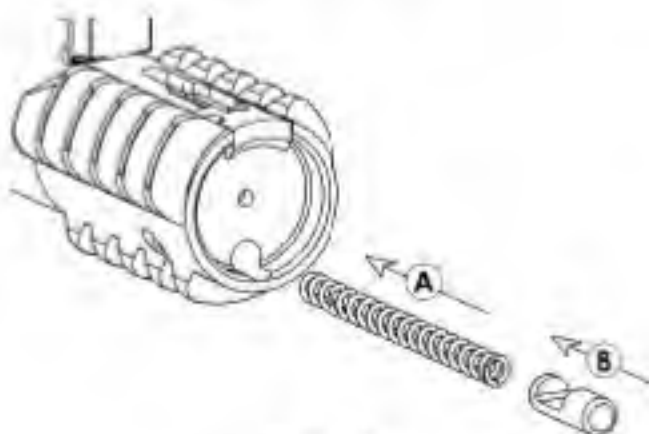

Figure 16.
1. Place the ejector spring in the ejector spring hole. (Figure 16, step A.) The spring is bi-directional.
2. Place the ejector in the ejector hole. (Figure 16, step B.) Orient the ejector so that the ejector's pin slot is facing toward the bolt.